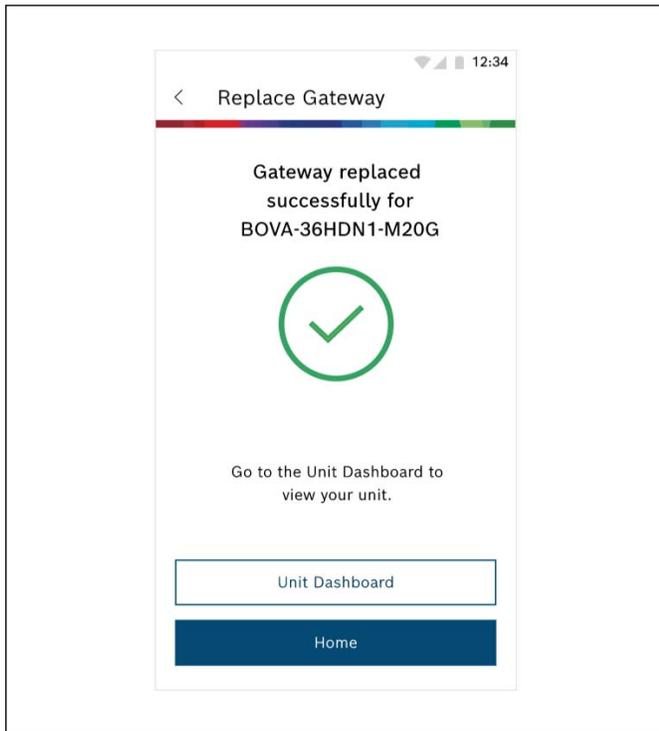

Figure 18
23. The Gateway has been successfully replaced once you see the success screen (Refer to Figure 18).